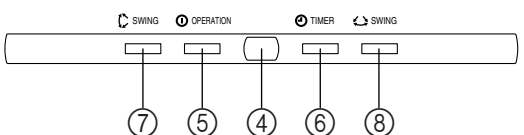

Fig. 3
- ② **MANUAL AUTO button**
- ③ **Indicator Panel (Fig. 3)**
- ④ **Remote Control Signal Receiver**
- ⑤ **OPERATION Indicator Lamp (red)**
- ⑥ **TIMER Indicator Lamp (green)**
- ⑦ **SWING Indicator Lamp (orange)**